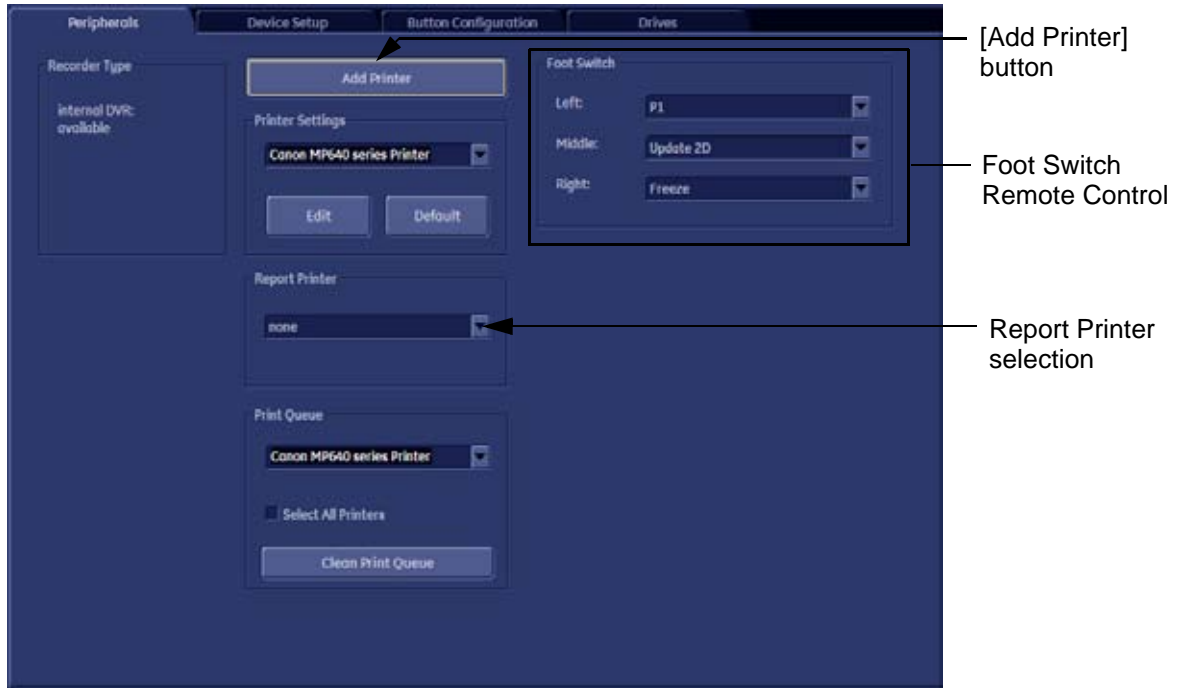

Figure 3-39 System Setup - Connectivity - PERIPHERALS page
- 4.) Click the **ADD PRINTER** button (see: Figure 3-39 above). Please read the displayed message carefully and click **YES** if you have skills to do this.